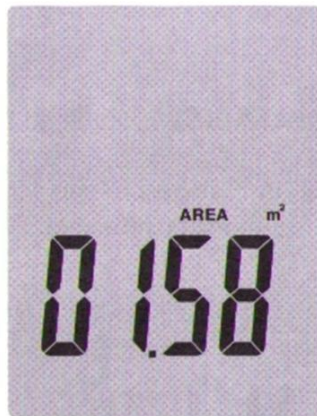

Fig 3
5. Move the protection ring to the lower position (Fig. 2). Use the telescopic stick (Fig. 3) to adjust the sensor to the desired length. Remember to carefully insert the sensor cable into the telescopic tube when extending it, to prevent damage to the cable.
To access the adjustment screen of the cross-sectional area, use  and  until the display indicates "AREA", the unit and the actual value of the cross-sectional area (Fig. 3). Then press  to confirm. The digits on the screen start to flash. Now you can set the decimal point by using  and  to navigate through the digits. To confirm the decimal point position, press . After that, the last digit starts to flash. You can now set its value (from 0 to 9) by using  and . Again, press  to confirm. The next digit starts to flash and you can set its value as described above. Repeat this procedure until you have set the desired values for all digits. After confirming all settings, you can exit the setup menu by holding  for 3 seconds.